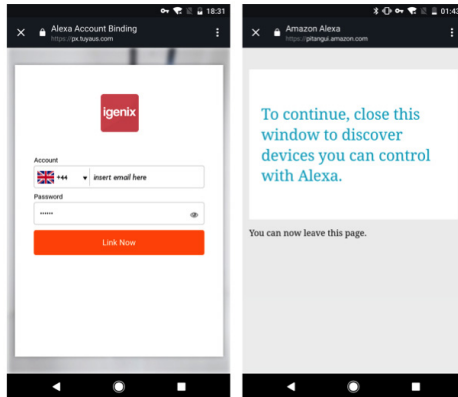

fig.19
- Type in your igenix account and password and then tap ‘Link Now’ to link your igenix account (fig. 19).